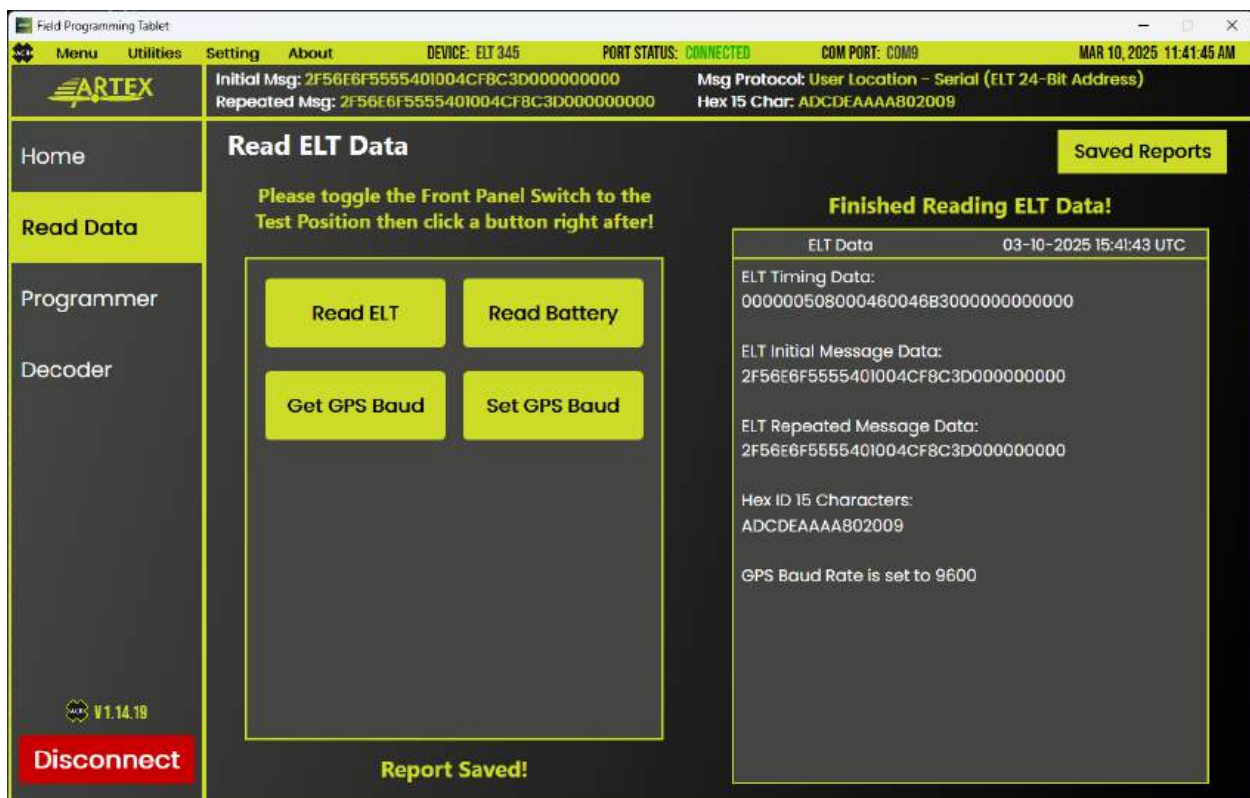

Figure 15 - FPT Read Data Screen
1. The **Read Data** page (Figure 15) allows the user to save ELT reports locally on the FPT Tablet in a PDF file format.